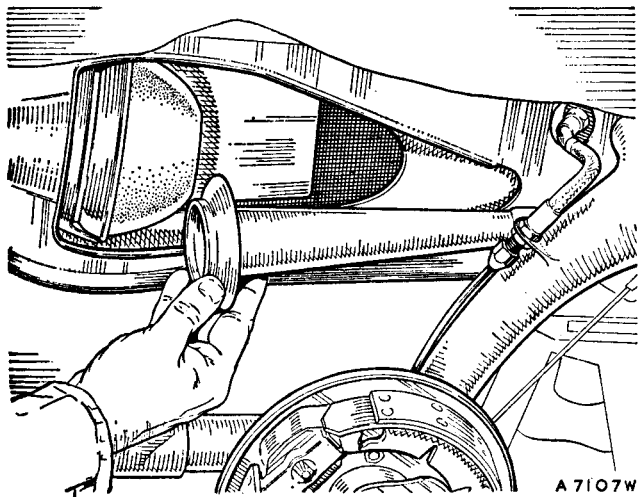

Fig. H.2
5. Prise out the strut assembly (Fig. H.2). The nylon cup may remain in the boss on the radius arm and, unless damaged, it can be removed with the fingers.